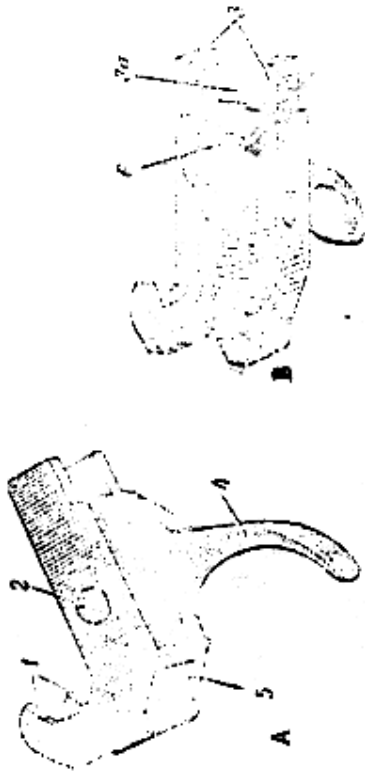

Figure 35. Trigger (0-8).
The trigger (fig. 35) serves to actuate the parts of the firing and trigger mechanism. It has a sear (1) which serves as a stop for the hammer, both for semiautomatic and full automatic fire; hole (2) for the pin; bars (3) which are acted on by the ends of the spring; recess (3a) for the base of the disconnector; and trigger (4).